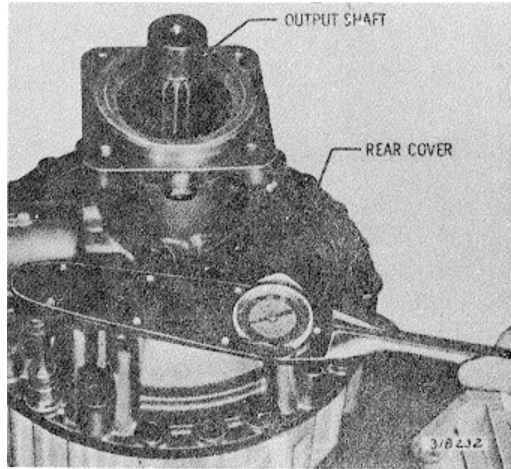

Fig. 7-9. Installing rear cover assembly
(5) Install the rear cover assembly (as assembled in para 6-22) and gasket onto the rear of the transmission housing and secure it with six 1/2-13 bolts and flatwashers, evenly spaced (Fig. 7-9). Tighten the bolts to approximately 30 pound feet (41 Nm) torque.
(1) Invert the transmission housing, rear cover side up.
(2) Remove the six bolts and washers that temporarily retained the rear cover to the transmission housing. Remove the rear cover and gasket. (Refer to figure 7-9.)